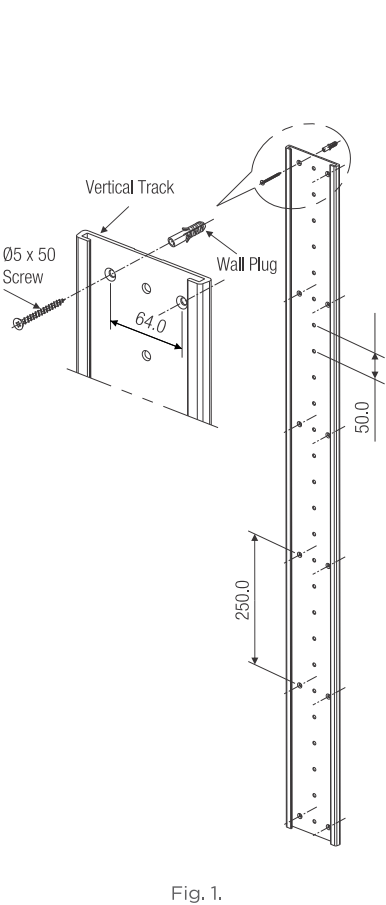

Fig. 1.
1. Fix the vertical track to the wall using wall plug & screws provided as shown in Fig. 1